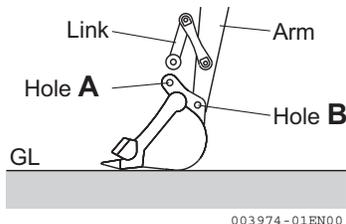

Fig. 3-74
7. Connect the arm to hole (**Fig. 3-74, B**), and then the link to hole (**Fig. 3-74, A**).
[You can easily align the hole of the link and hole (**Fig. 3-74, A**) by lifting the bucket slightly.]
8. Install the bolts into the bucket pins (**Fig. 3-72, A**) and (**Fig. 3-74, B**).